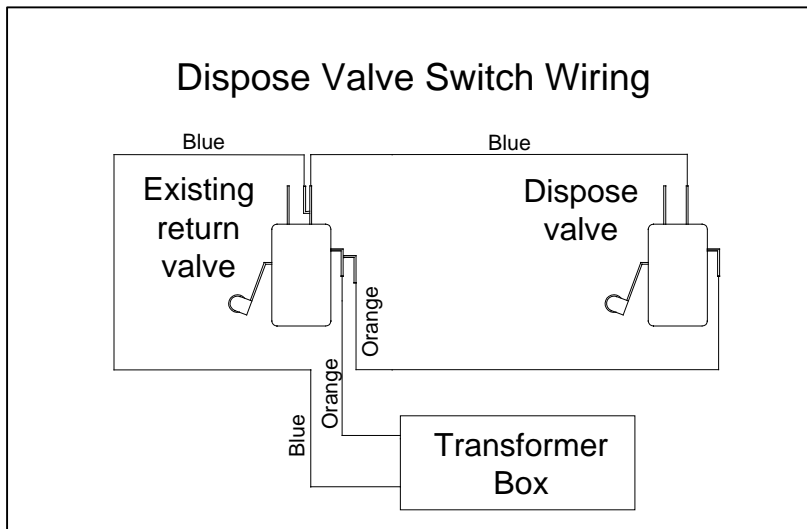

Figure 8: Dispose Valve Wiring
17. Plug both 1/4" pigtail ends of the new jumper wire harness (1064182) to the far-left oil return switch terminals. See Figure 8 on the following page.